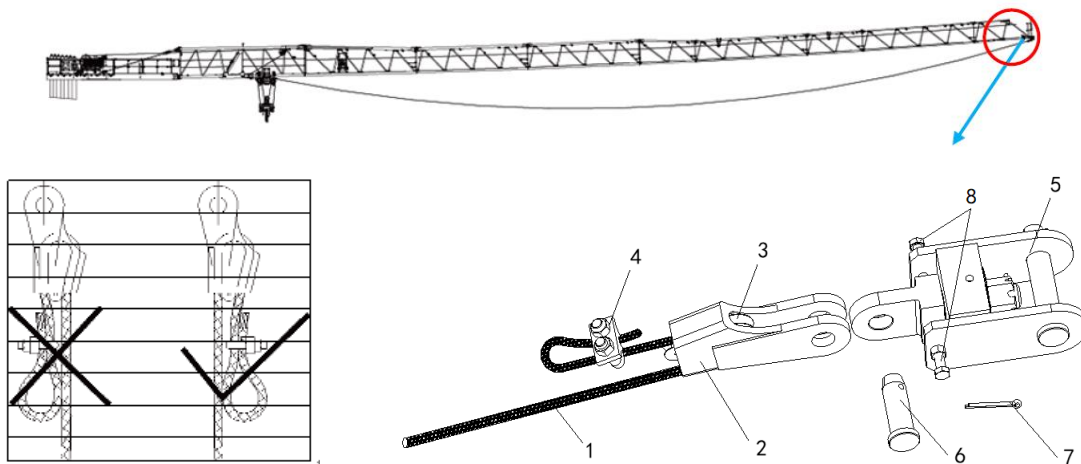

Fig. 4-41 Fixing the hoisting rope to the anti-twist device
- 4) As Fig. 4-41, the hoisting rope get into the anti-twist device which on the jib end after getting out from the trolley. Use the wedge (3) lock the rope (1) to the wedge sleeve (2), and install a rope clip to the end of the rope. Install the wedge sleeve (2) to the roe anti-twist device by the pin (6) and split pin (7). Pay attention to match way of the wedge, wedge sleeve and clip.